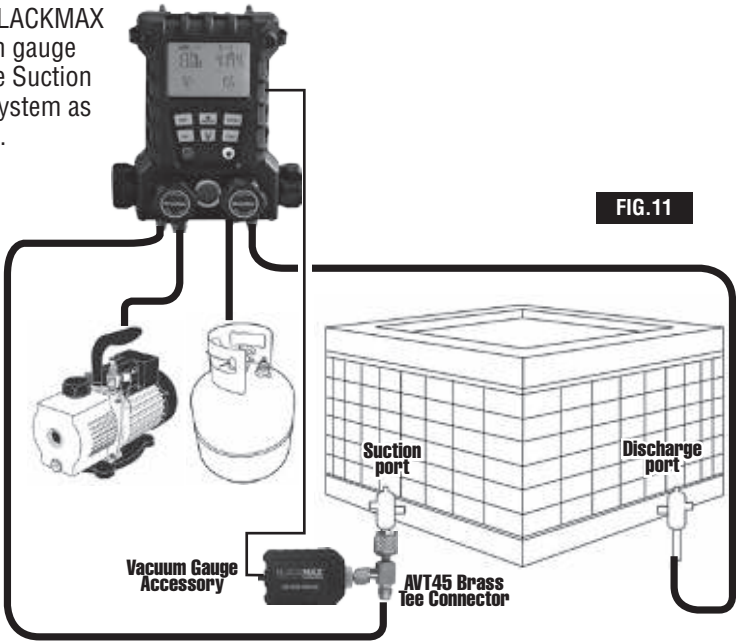

FIG.11
3. Assemble the BLACKMAX MDXVG vacuum gauge accessory to the Suction Port on an AC system as shown [FIG.11].